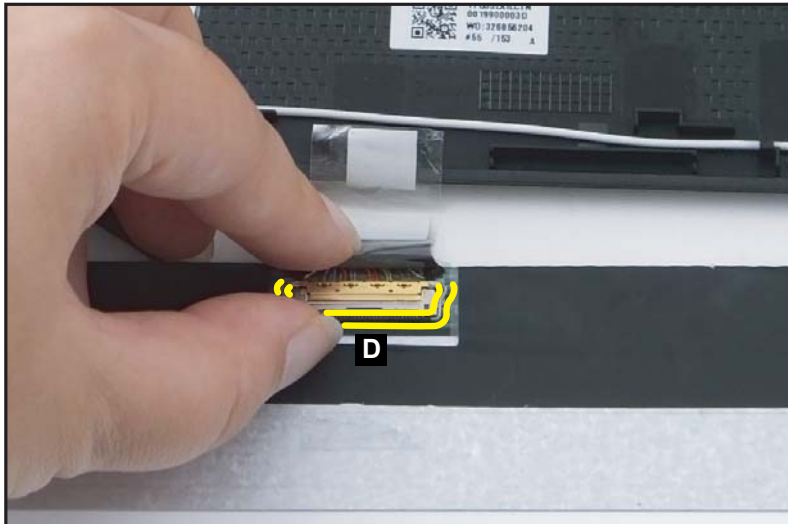

Figure 1-53. LCD Panel Removal
- Lift the latch (D) securing the eDP cable (Figure 1-53).